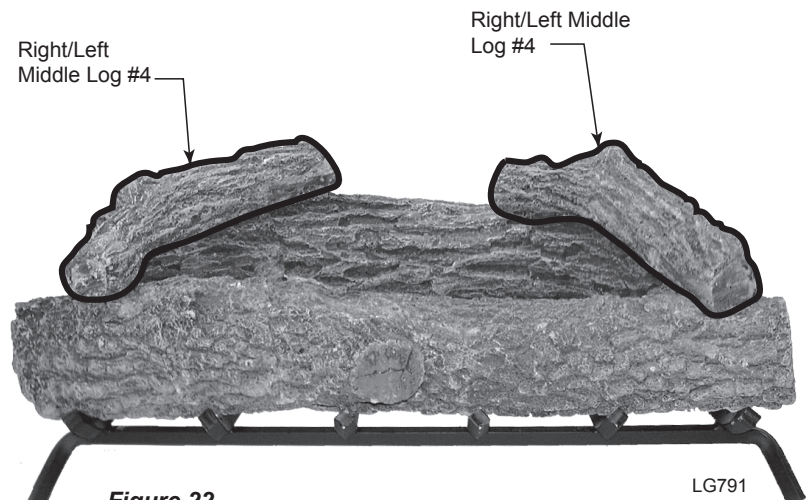

Figure 22 -
3. Place Right/Left Middle Log #4 on top right of Log #1 and Log #2. *Figure 22*
4. Place Right/Left Middle Log #4 on top left of Log #1 and Log #2. *Figure 22*